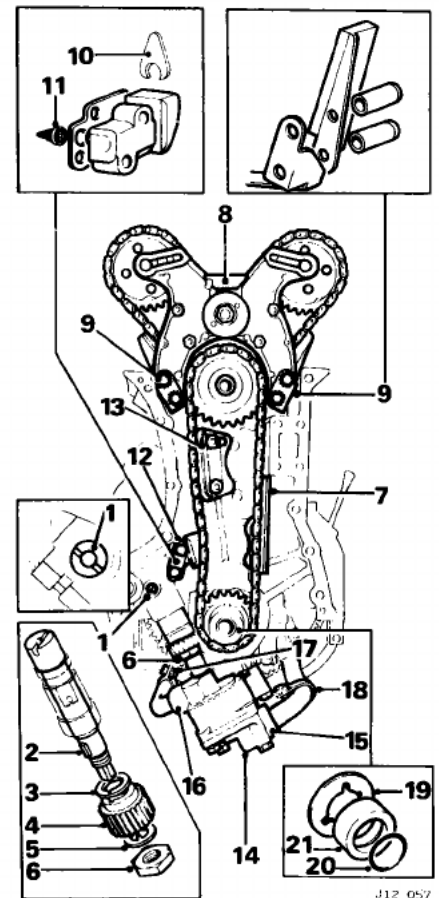

Fig. 72
Turn the crankshaft to accurately set pistons 1 and 6 to T.D.C. Place the distributor drive shaft in position with the offset slot as shown (1, Fig. 72). Slightly withdraw the shaft and fit Woodruff key (2, Fig. 72), thrust washer (3, Fig. 72) and drive gear (4, Fig. 72) on shaft. Maintaining correct slot position, press the shaft into gear, ensuring that the keyway engages correctly. Fit the pegged tab washer (5, Fig. 72) and secure it with plain nut (6, Fig. 72). Check the end-float of the shaft. The clearance should be 0.10 to 0.15 mm (0.004 to 0.006 in). If no clearance exists, renew drive gear. In emergency, the thrust washer can be reduced. Locate the lower timing chain dampers (7, Fig. 72) and loosely fasten.
Fit the Woodruff key to the second slot. Offer the top and bottom timing chain assembly and chain sprockets (8, Fig. 72) into position and secure using four setscrews and locking washers (9, Fig. 72).
Screw the slipper of the chain tensioner into the body casting. Fit the slip gauge or distance card (10, Fig. 72) supplied with the new tensioner to maintain a clearance of 3.17 mm (0.125 in) between slipper and body.
Locate the conical filter (11, Fig. 72) in the cylinder block.
Secure the chain tensioner to the cylinder block using two setscrews (12, Fig. 72) and lock-washers. Fit the shims as required to ensure that the slipper runs central on the chain.
Set the adjustable damper (13, Fig. 72) into light contact with the chain and secure it.
Locate the coupling on the oil pump (14, Fig. 72) and secure it to the front main bearing cap. Fit the lockplates and pipe bracket.
Ensure that the 'O' ring seal is fitted in the oil pump suction (15, Fig. 72) and delivery ports (16, Fig. 72).
Secure the pipe clip (17, Fig. 72).
Fit the oil suction pipe and secure the pipe clips (18, Fig. 72).
Fit the oil thrower (19, Fig. 72) at the timing chain sprocket, if originally fitted.
Check the 'O' ring seal (20, Fig. 72) in the distance piece (21, Fig. 72) and fit on to the crankshaft.